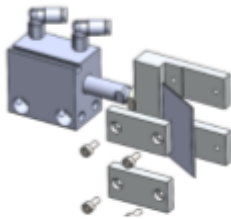

Figure 8
Step 4: Use an Allen key to remove the screws from the knife holder and remove the knife (see figure 8).